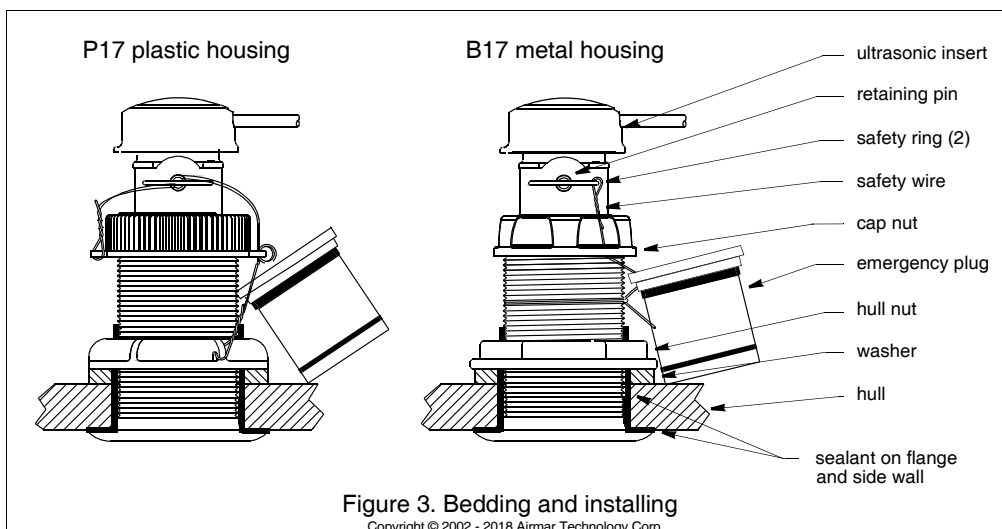

Figure 3. Bedding and installing
Apply a 2mm (1/16") thick layer of marine sealant around the flange of the housing that contacts the hull and up the sidewall of the housing. *The sealant must extend 6mm (1/4") higher than the combined thickness of the hull, washer(s), and hull nut (Figure 3).* This will ensure there is sealant in the threads to seal the hull and to hold the hull nut securely in place.
1. From outside the hull, push the housing into the mounting hole using a twisting motion to squeeze out excess sealant (Figure 3). *Align the arrow on the flange of the housing pointing forward toward the bow.* If the sensor is not installed on the centerline, angle the housing slightly toward the centerline to align it with the water flow.
10. Attach one safety ring to one end of the retaining pin. Slide the retaining pin through the valve assembly and the ultrasonic insert. Attach the second safety ring to the retaining pin (Figure 3).
3. Remove the ultrasonic insert from the housing by removing the safety wire, one safety ring, and the retaining pin. **Do not remove the cap nut** (Figure 3).
6. Reattach the safety wire to prevent the insert from backing out in the unlikely event that the cap nut fails or is screwed on incorrectly (Figure 3).
1. Remove the *short* emergency plug from the safety wire (Figure 3).
9. Reinstall the ultrasonic insert and secure it with the retaining pin and safety rings. Attach the safety wire to the *short* emergency plug, the cap nut, and the safety ring (Figure 3).